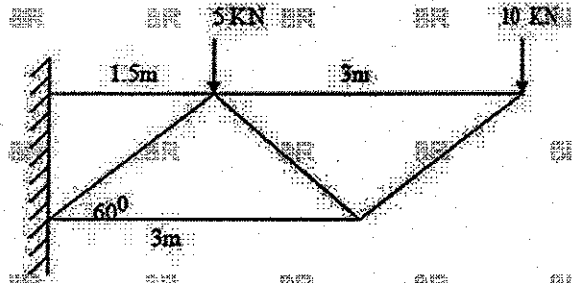

Figure: 3
5. A cantilever truss is shown in Figure 3. Find the forces in the members of the truss by the method of joint. [15]